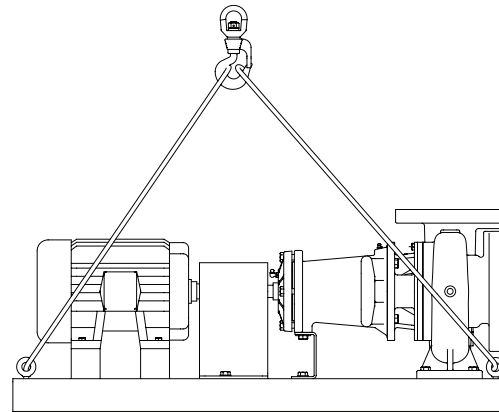

Figure 1A
- Handling, transportation and installation of this equipment should only be undertaken by trained personnel with proper use of lifting equipment. See "Uncrating and Lifting" Figures 1A and 1B for reference.